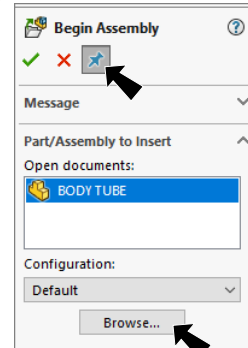

Fig. 1
- click **Keep Visible** , **Fig. 1**
- Step 4. Click **Browse** in the Property Manager, **Fig. 1**.